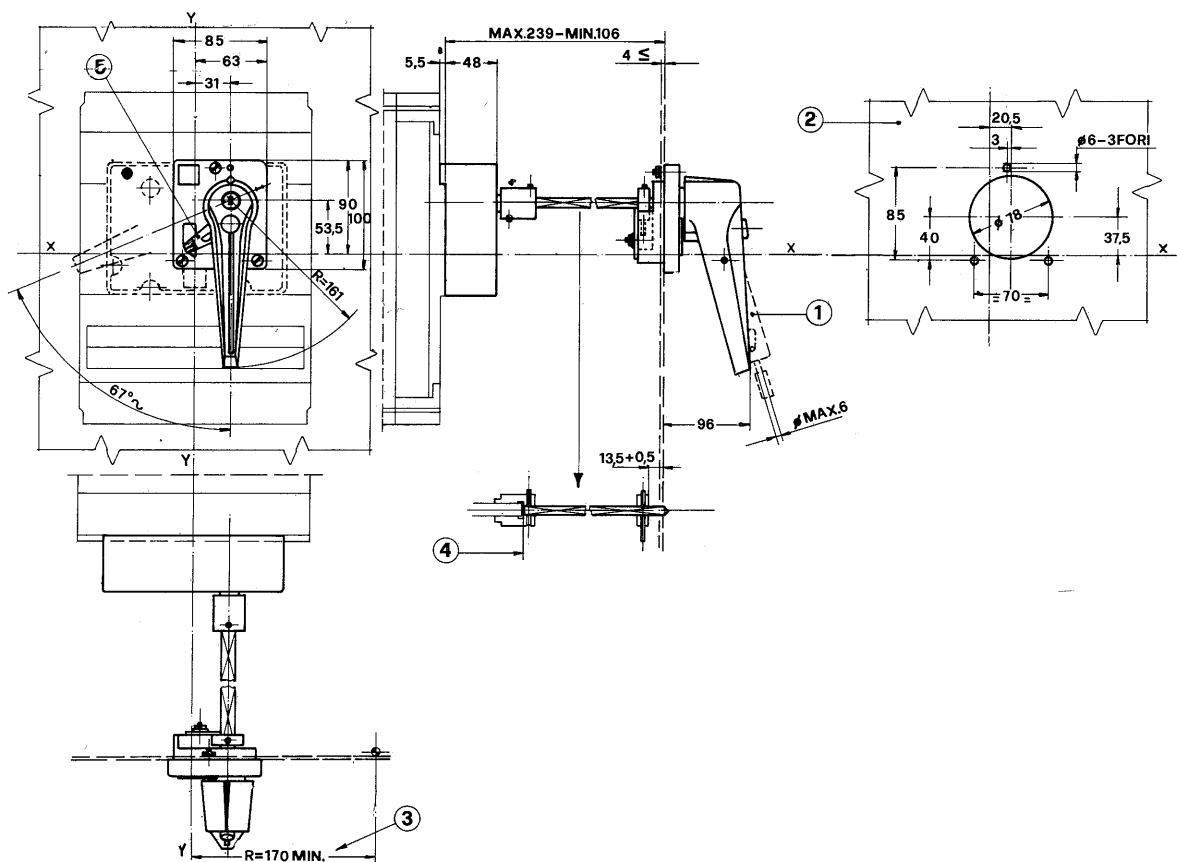

Fig. 31
- operate as instructed under § 8.8.1./a), b), c), taking care that piece (6) is in its seat as shown on figure
- install the breaker in the panel or enclosure taking care that the clearance between the door and the breaker is that indicated on figure 31
- drill the door to template on fig. 31
- shorten the transmitting rod (11) as shown on fig. 31 point 4 and observe the clearance of  $17,5 \pm 0,5$  mm. from stop (13) and the outside surface of the door
N.B. Tighten screws (14) to prevent rod (11) from slipping out of transmitting (2) group joint (15) and from stop (13).